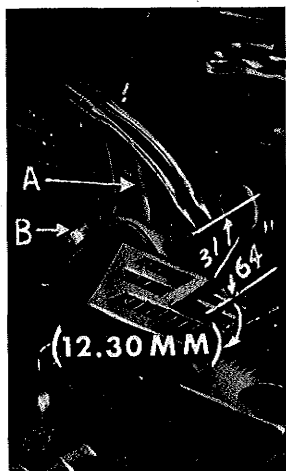

Fig. 3
With throat plate assembled in position, needles should center in the front end of needle slots. When needles are at high position, needle points should be set $31/64$ inch (12.30 mm) above throat plate (Fig. 3). To align needles or set the height above the throat plate, move needle driving arm (A, Fig. 3) by loosening clamp screw (B). Remove throat plate, after needles have been set properly and clamp screw (B) has been tightened.